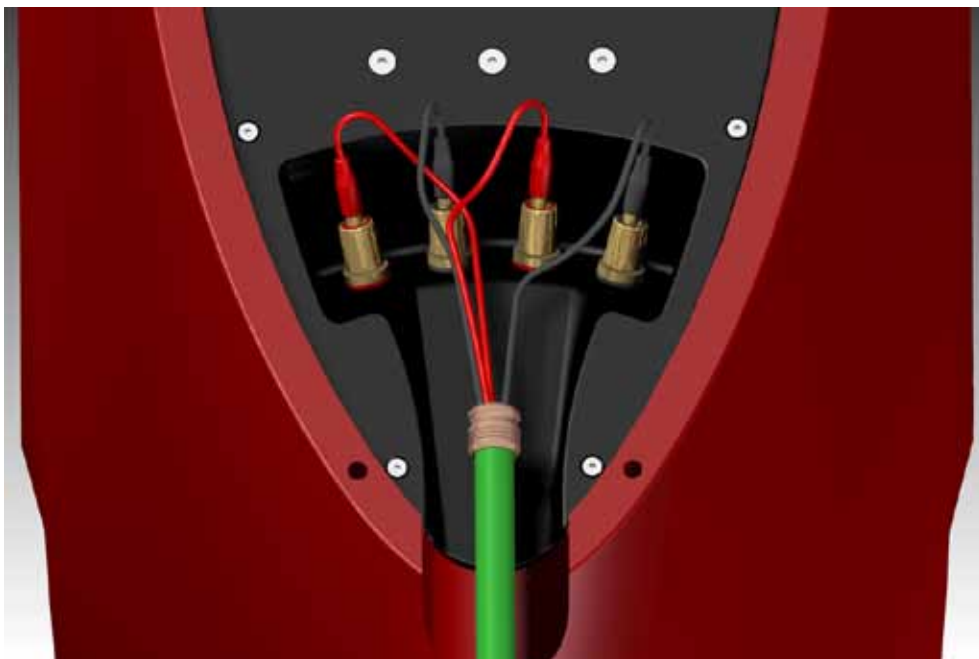

Fig 2
GIYA is provided with four terminals to permit the use of bi-wiring or bi-amping shown in fig.2. The mid and high frequency crossover is connected to the right hand pair of terminals (as viewed from the back) and the low frequency to the other allowing the user to have separate wires feeding each section connected to a single amplifier output, in the case of bi-wiring, or two independent amplifiers in the case of bi-amping. This latter case even gives rise to the possibility of mixing different types of amplifier for the two ranges but be careful to match the gain and polarity of the two if you are to avoid messing up the basic frequency response of the loudspeaker. If you are in any doubt about this you really should talk to your dealer.
**IMPORTANT NOTE:** Figures 2, 3 and 4 are views of the Giya terminal tray as seen from below! Therefore the hf/mf terminals are shown on the left in these images.